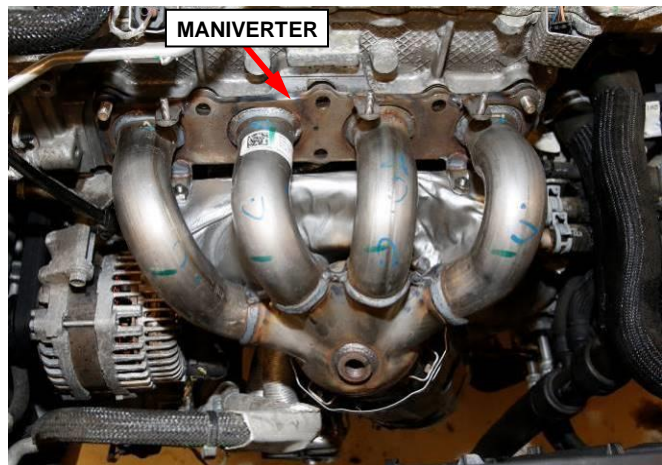

Figure 15 – Install New Gasket
25. Install the **NEW** maniverter through the top of the engine compartment. Set the maniverter into position (Figure 15).